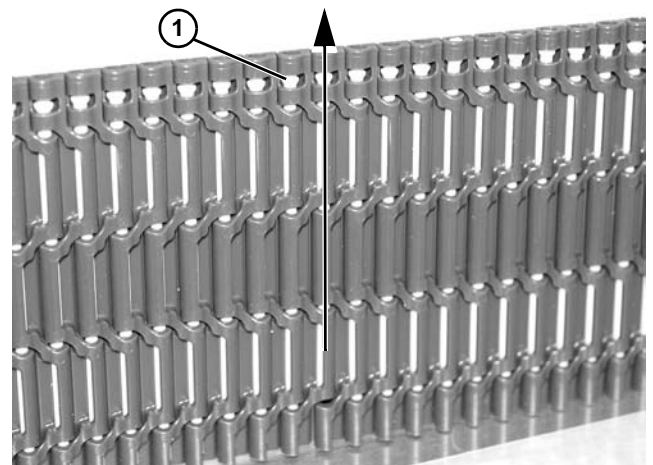

Figure 165
*Note that head of pin (**Figure 165, item 1**) should be removed in direction shown.*